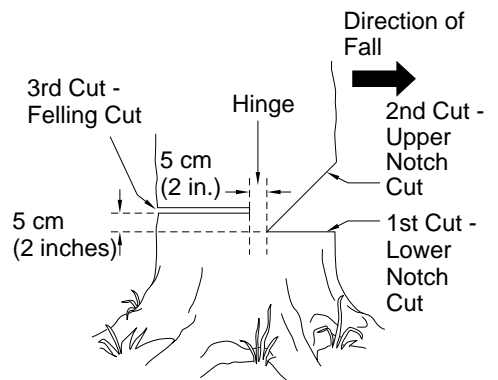

Figure 12 - Felling A Tree
A properly placed felling notch will determine direction tree will fall. Place felling notch on side of tree in direction you want tree to fall (see Figure 12, page 11). Follow directions below to create a felling notch.
1. Make lower notch cut as close to ground as possible. Hold saw so guide bar is horizontal. Cut 1/3 the diameter of tree trunk (see Figure 12, page 11). *Note:* Always make this horizontal lower notch cut first. If you make this cut second, tree can pinch chain or guide bar.
2. Start upper notch cut the same distance above first cut as first cut is deep. *Example:* If lower notch cut is 20 centimeters deep (eight inches), start upper notch cut 20 centimeters (eight inches) above it. Cut downward at 45° angle. The upper notch cut should meet end of lower notch cut (see Figure 12, page 11).
1. Make felling cut five centimeters (two inches) higher than lower notch cut and on opposite side of tree (see Figure 12, page 11). Keep felling cut parallel to lower notch cut.
⚠ **WARNING:** Do not cut all the way through tree. Leave about five centimeters (two inches) of tree diameter uncut directly behind felling notch (see Figure 12). This uncut portion acts as a hinge. The hinge helps keep tree from twisting and falling in wrong direction.